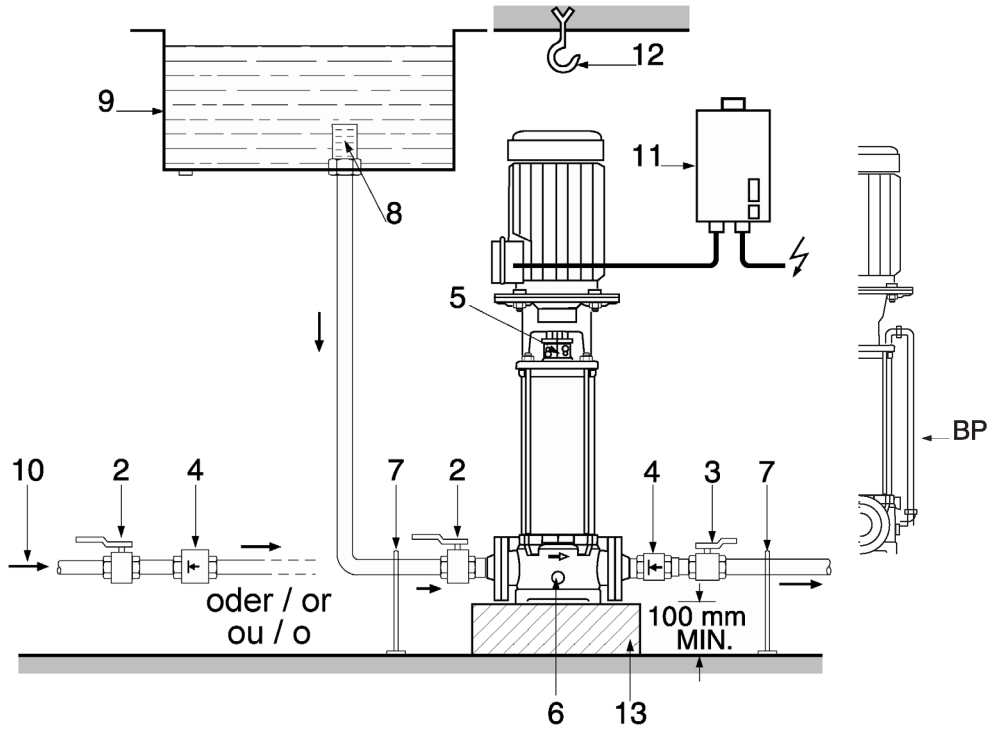

Fig. 3
Principal dimensions and connection dimensions (Table 2, see also Fig. 3):
- Dimensions for installation and connections are given in Paragraph 1.2.1, Table 2 and in Fig. 3.